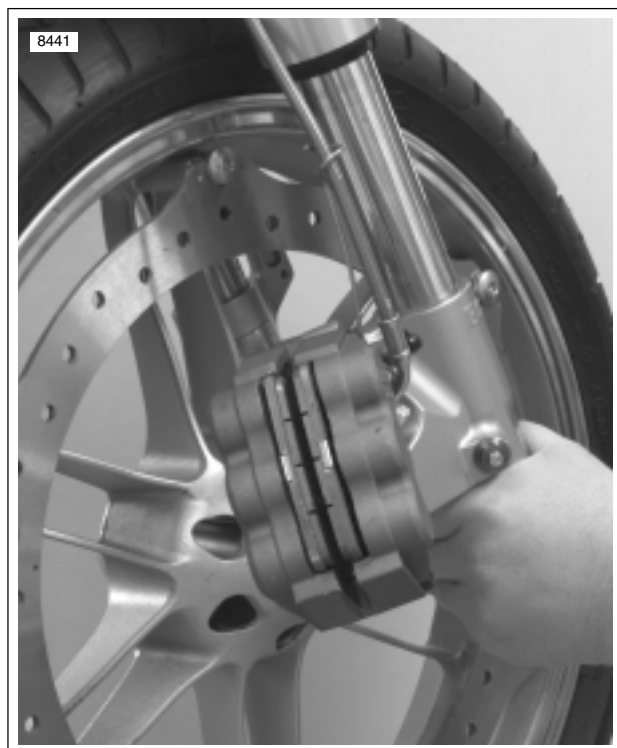

Figure 2-18. Front Wheel Installation
2. See Figure 2-18. Install caliper.